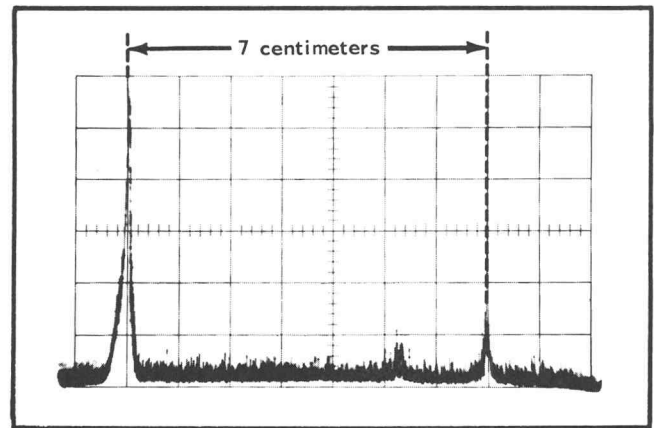

Fig. 2-5. Frequency difference measurement between two signals.
3. Measure the distance in graticule divisions between the two signals (see Fig. 2-5).
4. Multiply the distance measured in step 3 by the DISPERSION/CM setting to determine the frequency separation. As in the example shown in Fig. 2-5.